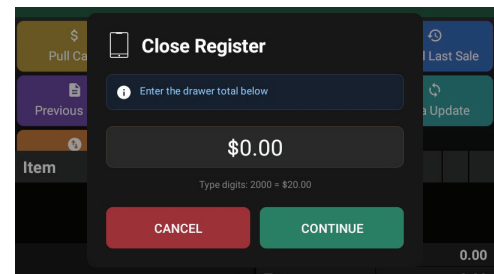

Figure 66
3. Count your change and your cash, enter the drawer total into this field (Figure 66).